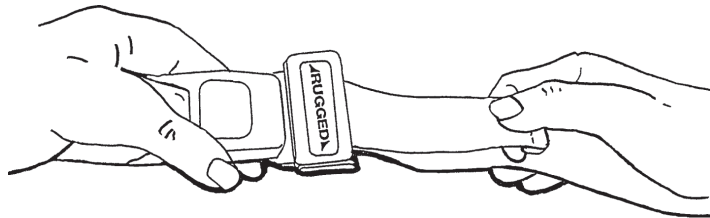

Figure 21 - Shortening the Safety Restraint
1. Grasp the hemmed tab, pull the webbing back through the latch plate until the required tightness is achieved (Figure 21).